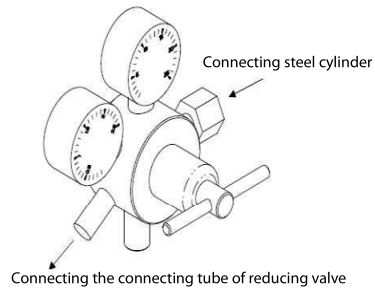

Figure 4-2 Connection of the reducing valve
2. Connect the steel cylinder joint of the reducing valve to the gas outlet of the steel cylinder. Use a force of about 29.4N.m (3kgf.m) to fasten it. As shown in Figure 4-2.